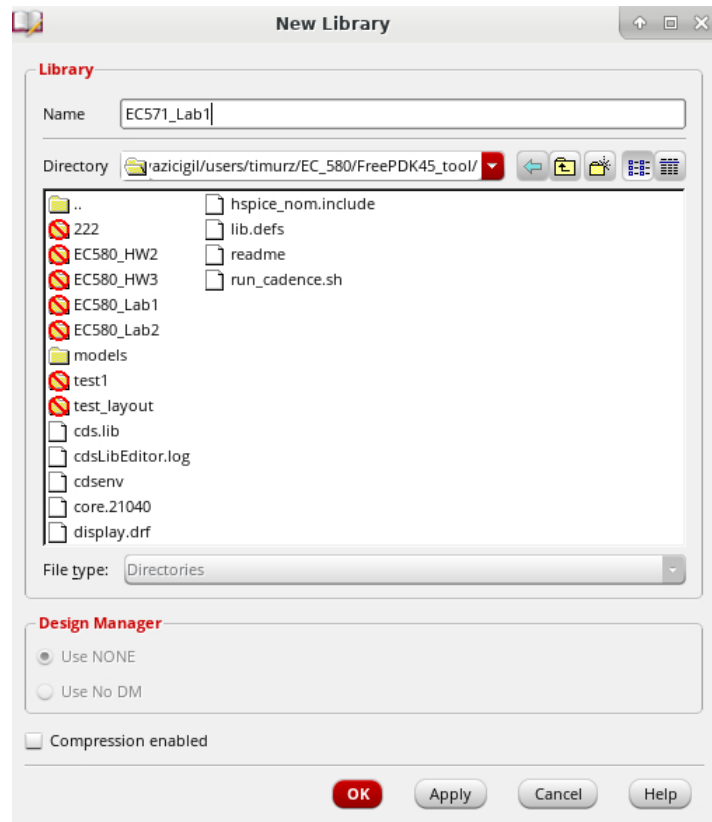
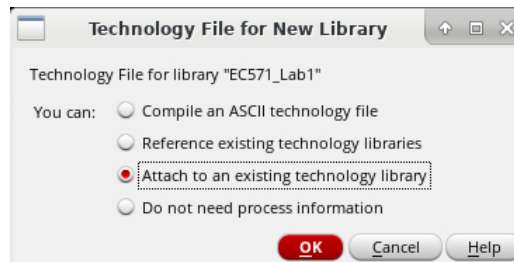

Figure 2: “New library” window
Figure 3: Technology file selection option for new library
1. To create a new library: click File → New → Library (see Figure 2), and name it “EC571_Lab1” for your lab 1. Make sure to select “Attach to an existing technology library” under Technology File, then click “Apply” (see Figure 3).